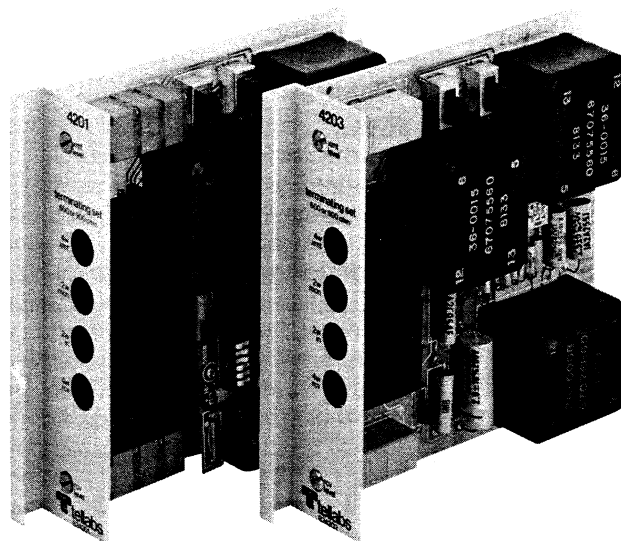

figure 1. 4201 and 4203 Terminating Sets
1.01 Tellabs' 4201 and 4203 Terminating Sets (figure 1) provide toll-grade interfacing between 2wire and 4wire voice-frequency transmission facilities. Both modules feature switchable 600 or 900-ohm impedance termination on the 2wire side, while 4wire impedance terminations are fixed at 600 ohms. In each case, the resistive 600 or 900-ohm component of the impedance at a particular port is in series with a $2.15\mu\text{F}$ capacitive component.